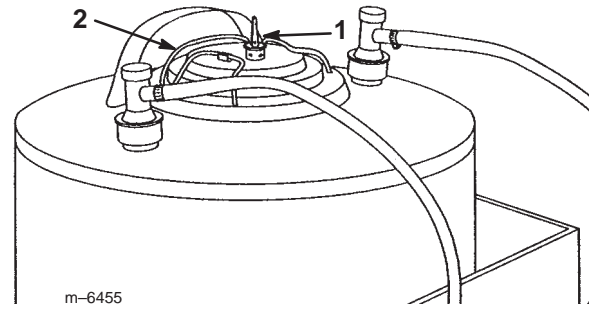

Figure 18
2. Flip the pressure relief valve to the upright position (Fig. 18).
2. Relieve pressure within tank by flipping the pressure release valve into the upright position. (Fig. 18)